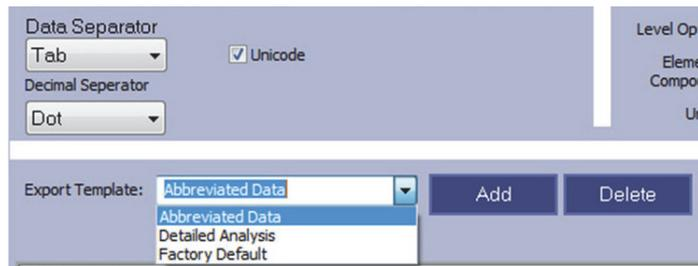

Figure 1-33 Selecting an export template
- ◆ To choose a template, click the down arrow in the **Export Template** list and select the desired template in the list (see Figure 1-33 on page 28).
1. Select a template in the **Export Template** list, and then click **Delete** (see Figure 1-33 on page 28).